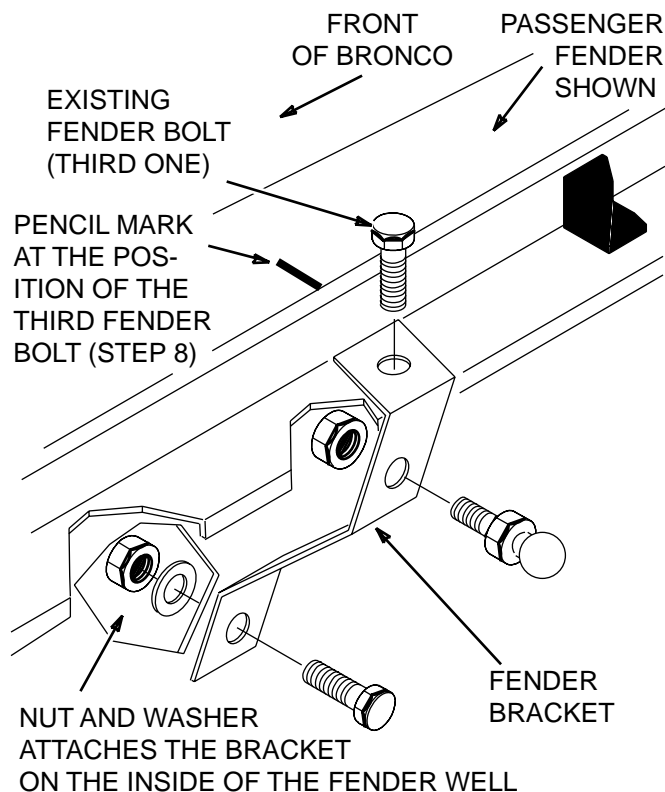

Figure 1
1. Install ball stud and nut on each fender bracket in the center hole with the ball stud to the outside. See Figure 1.
8. With the hood opened and supported, mark the location of the third fender bolt by making a pencil mark on the fender next to the bolt. This mark should be clearly visible when the hood is closed. See Figure 1.